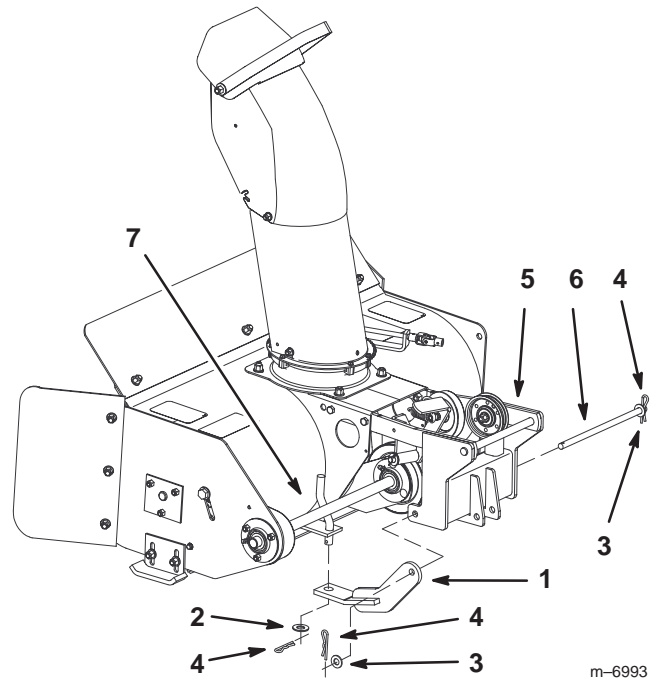

Figure 9
1. Install the lift bracket to the snowthrower with a flat washer (5/8 inch) and a hairpin cotter (fig. 9).
2. Install the lift bracket to the snowthrower frame with a support rod, 2 washers (17/32 inch) and 2 cotter pins (Fig. 9).